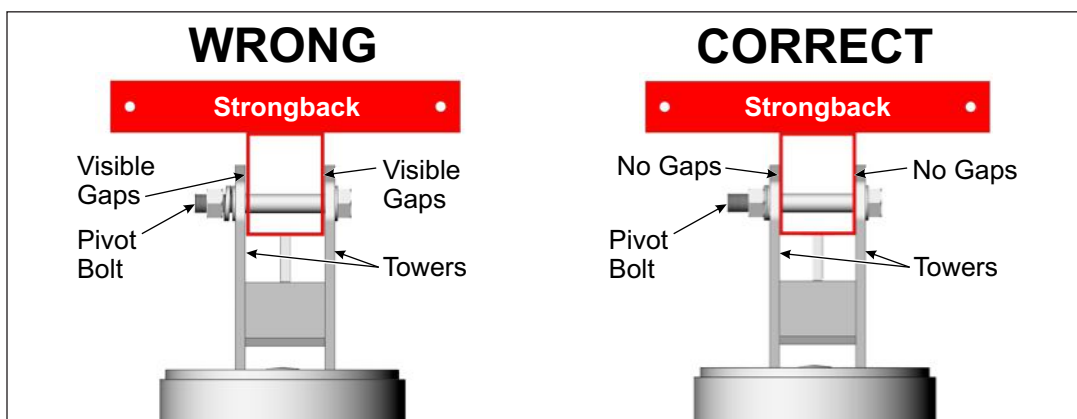

Figure 2-4: Tighten and Torque the Pivot Bolt
- G. Return and tighten the Pivot Bolt, The Pivot Bolt cannot be left loose - the Mounting Sleeve Vertical Towers must be firmly clamped to the sides of the Strongback eliminating any gaps between the Vertical Towers and the Strongback. **Torque to 330-350 ft.-lbs.** (See Figure 2-4)